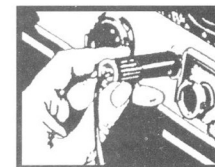

Fig. 2
3. To inflate, simply plug the power cord into a cigarette lighter socket (Fig. 2). Then set compressor ON/OFF switch to "ON" position.